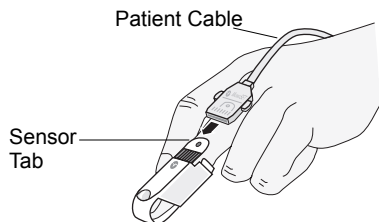

Figure 8
6. Match the Masimo SET logo on the sensor to the logo on the SpO₂ patient cable, and slide the sensor tab into the patient cable until it clicks into place (see Figure 8).